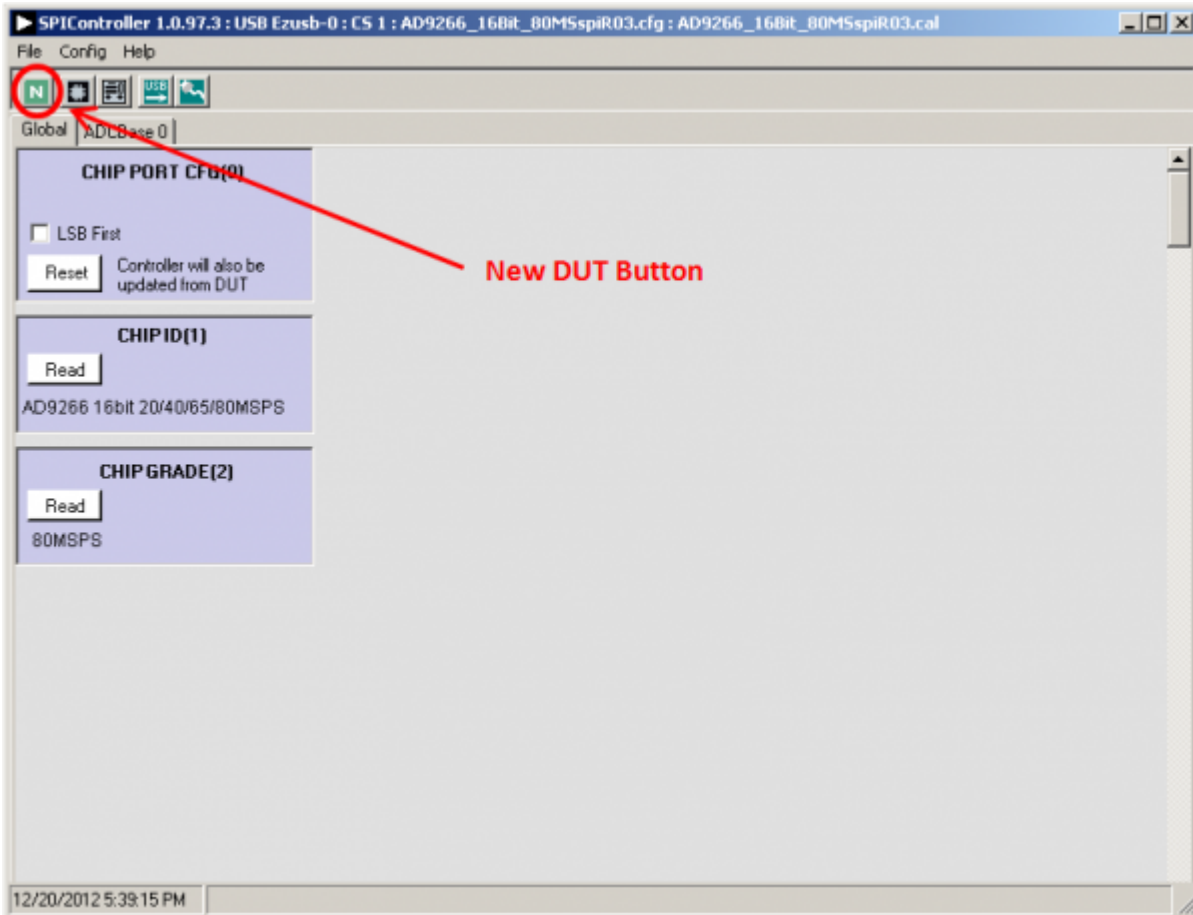

Figure 8.
*SPI Controller, CHIP ID(1) Box*
2. Click the **New DUT** button in the **SPIController** window (see Figure 8).